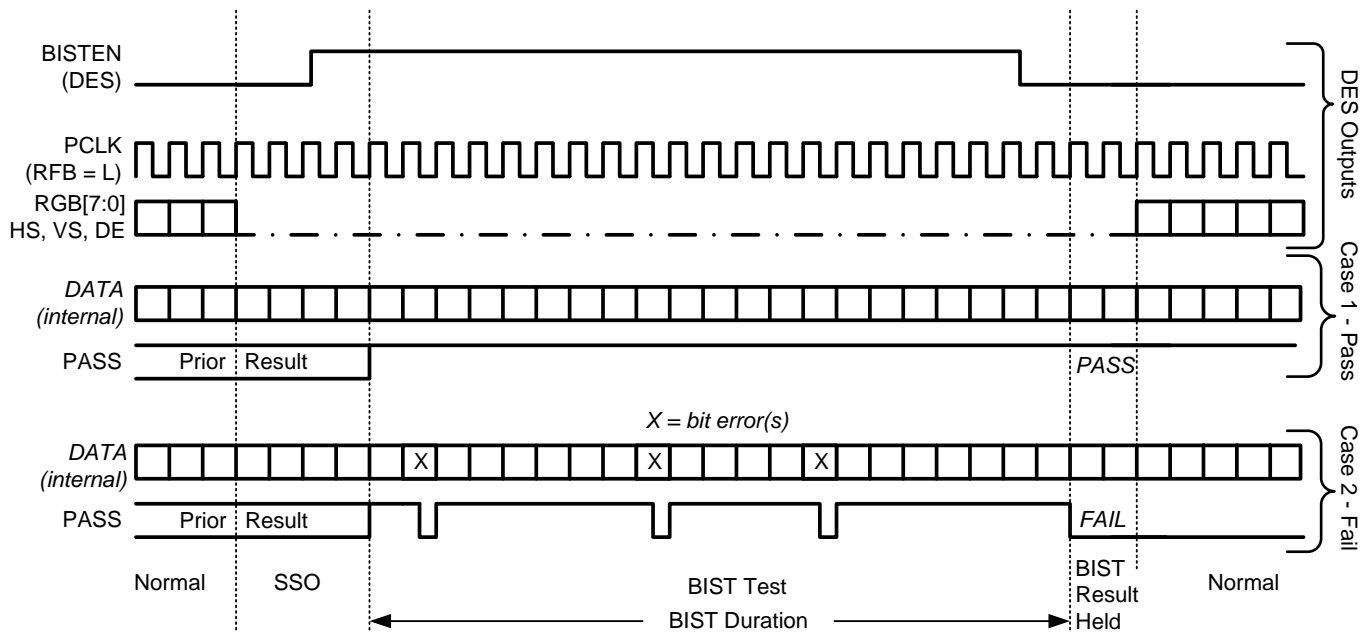

Figure 15. BIST Waveforms
Step 4: The Link returns to normal operation after the deserializer BISTEN pin is low. Figure 15 shows the waveform diagram of a typical BIST test for two cases. Case 1 is error free, and Case 2 shows one with multiple errors. In most cases it is difficult to generate errors due to the robustness of the link (differential data transmission etc.), thus they may be introduced by greatly extending the cable length, faulting the interconnect, reducing signal condition enhancements (Rx Equalization).